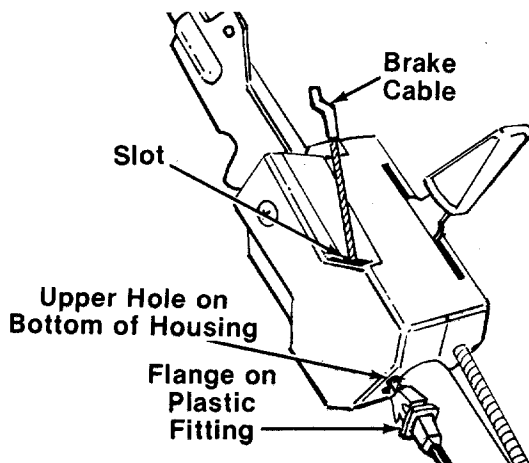

FIGURE 5.
- The brake cable is attached to the engine, and has a "Z" fitting on the loose end. Route the brake cable under the lower handle. Place the end of the brake cable into the upper hole on the bottom of the control housing, and through the slot in the side of the housing as shown in figure 5. The angle of the flange on the plastic fitting must be positioned downward as shown. Be careful not to bend or kink the cable.